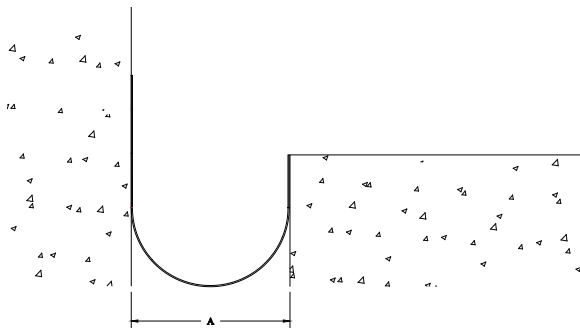

Figure 3
**STEP 3.** Select the water barrier, and place it into its installed position, pressing it firmly into the mastic applied in Step 2, see Figure 3. Ensure that the water barrier is properly aligned and positioned. Make the appropriate allowances for water expulsion at this time.